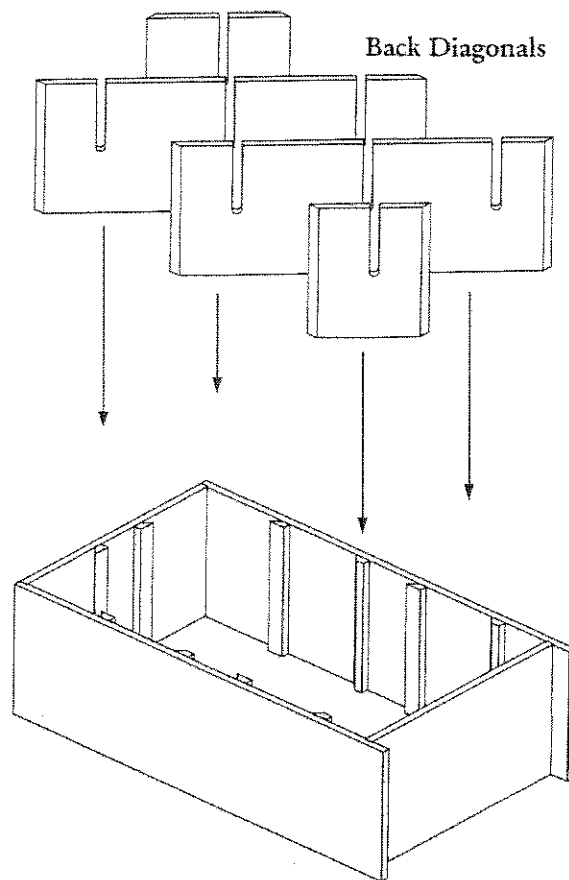

Figure 4
4. Locate panels labeled B1, B2, B3, and B4. In order to insure the panels are in the appropriate position, align the bottom of the panels with the right side cleats. All of these panels should be angled with the higher end on the left and lowest point on the right (**Figure 4**). Insert panel B1 in the upper right hand corner. Work your way down by inserting the B2 panel followed by the B3 panel. Finish by inserting the B4 panel into the lower left hand corner. (**Please note when installing the back diagonals that the dados (or slots) need to be facing the front of the bin.*)